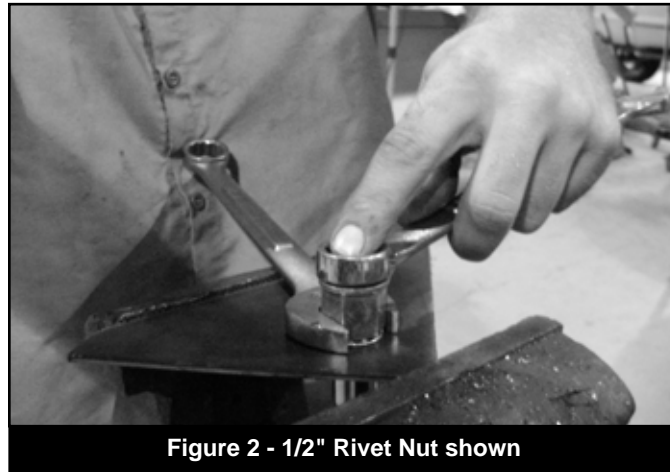

Figure 2 - 1/2" Rivet Nut shown
37. For a 3/8" rivet nut, hold the nut closest to the rivet nut still with an 5/8" wrench and tighten the 3/8" bolt with a 9/16" wrench to set the rivet nut. Be sure to hold the rivet nut flush to the surface and square to the hole as it is tightened. Figure 2